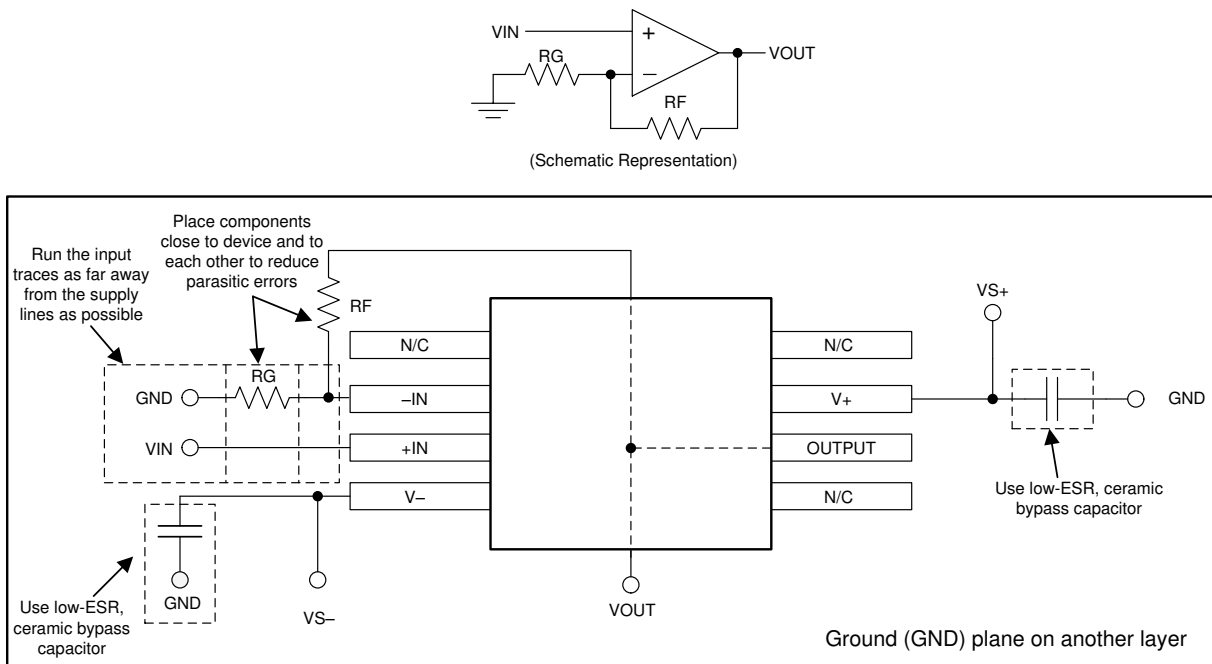

Figure 10-1. Layout Example
- Place the external components as close to the device as possible. As shown in Figure 10-1, keeping RF and RG close to the inverting input minimizes parasitic capacitance.